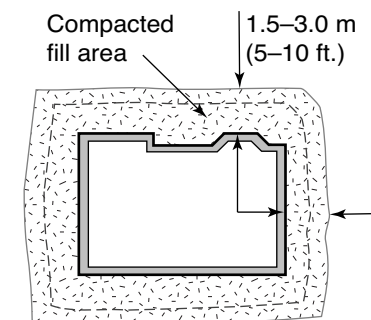

FIGURE 37
- ◆ The boundaries of the compacted area should be extended 1.5 to 3.0 m (5 to 10 ft.) beyond the perimeter of the slab (see Figure 37). Compact the area around the slab-on-ground, and slope it to promote drainage away from the slab.